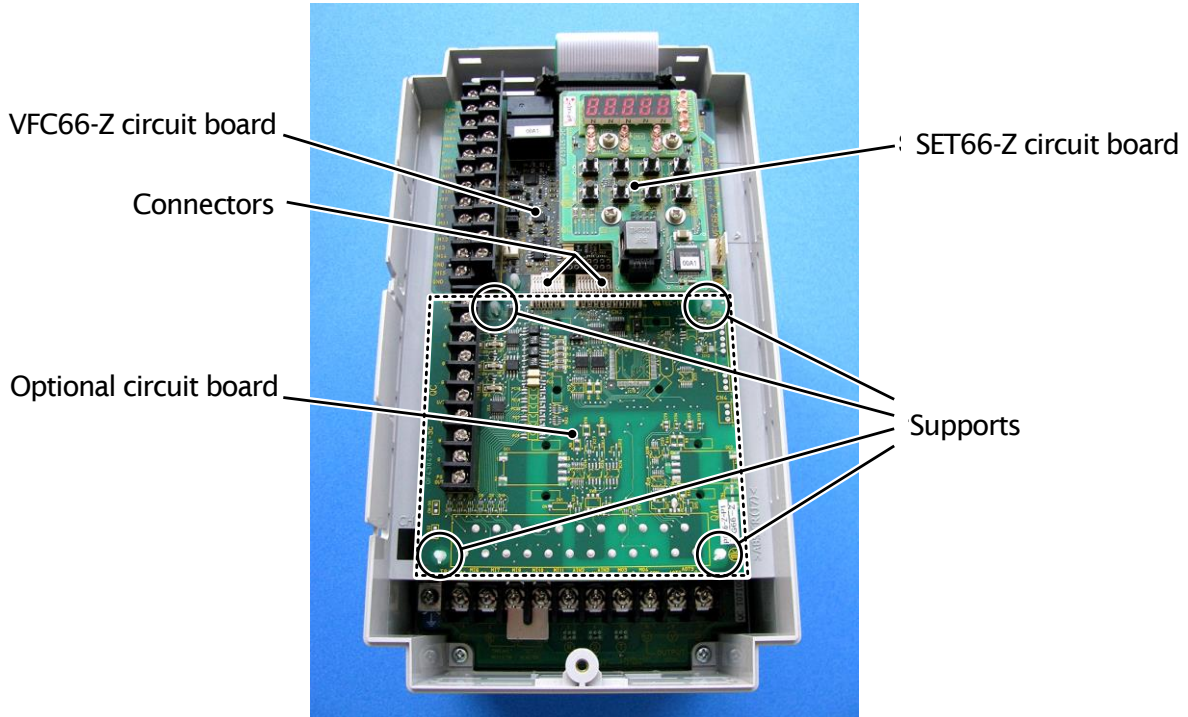
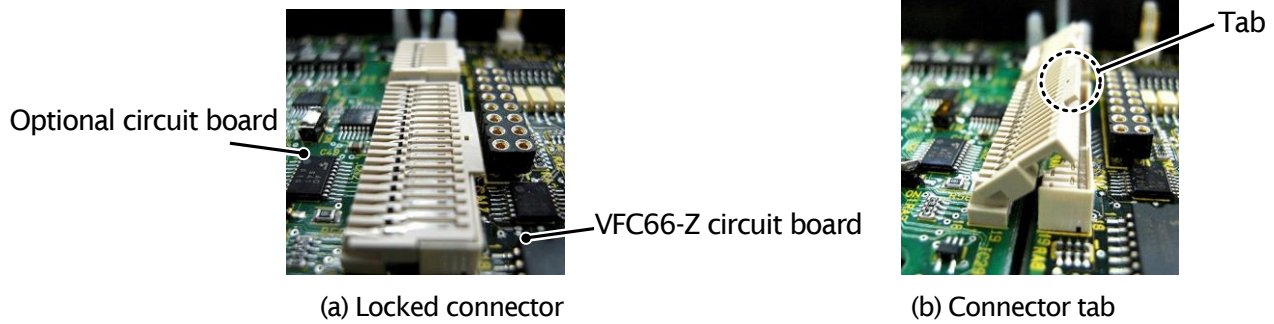
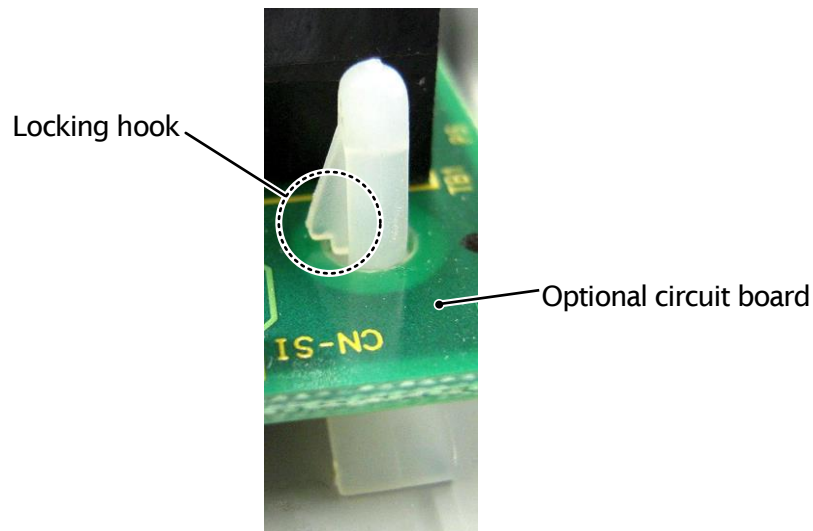

Figure 3.2 CC66-Z installation position (VF66B-2R222)
Figure 3.4 Connector
Figure 3.5 Support locking hook
- (1) Confirm that the power is off before performing any work.
- (2) Install the CC66-Z board in the location designated by the dotted lines shown in Figure 3.2. (The figure shows the VF66B-2R222 model, however, the installation location is the same for other models.) If another optional circuit board is already installed, remove it by following the procedure described below. If another optional circuit board is not already installed, skip to (6).
- (3) In order to safely remove the optional circuit board, first remove the SET66-Z board. Remove the 4 screws indicated by the circles in the figure on the right. Pull the SET66-Z board away from the VFC66-Z board in order to detach it.
- (4) Next, release the two connectors between the VFC66-Z board and the optional circuit board. Figure 3.4 (a) shows the connector in its engaged position. Pull up the tab to release the connector as shown in Figure 3.4 (b).
- (5) 4 board supports are included to mount the optional circuit board to the inverter housing, as indicated by the circles in Figure 3.2. Press down on the board support locking hooks as shown in Figure 3.5 to remove the optional circuit board.
- (6) Align the four holes of the CC66-Z board with the 4 board supports indicated by the circles in Figure 3.2. Push down on the board until the support locking hooks snap into place as shown in Figure 3.5.
- (7) Align the tabs (shown in Figure 3.4 (b)) of the CC66-Z board connectors CN1 and CN2 with the VFC66-Z board connectors CN7 and CN4. Press down on the tabs to engage with the connectors. Once the connectors are correctly joined, it will look like Figure 3.4 (a). The movable part of the connector has some elasticity and if the joint is weak, it may become disconnected. Ensure that it is properly locked in place.
- (8) Install the SET66-Z board to its original position.
- (9) Return the front cover to its original position.